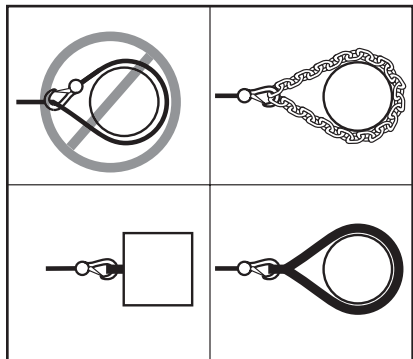

Figure 5. Cable attachment.
4. Hook onto the pulling object with a pulling point, tow strap, or chain as shown in Figure 5. **DO NOT** wrap the cable around an object and attach the hook to the cable. This can damage the object and fray or kink the cable.